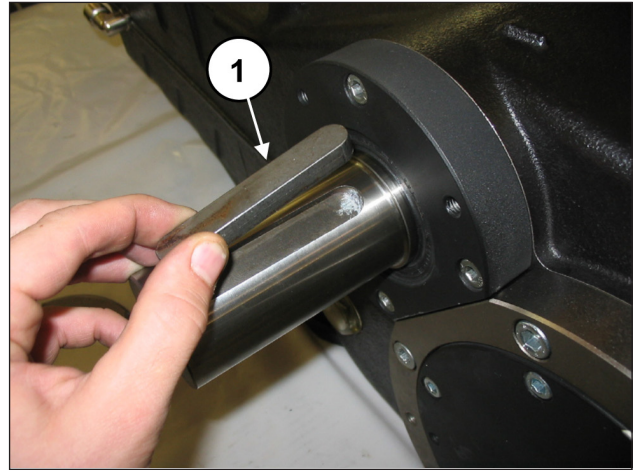

Fig. 105
Apply the tab to the PTO shaft (pos. ①, Fig. 105).